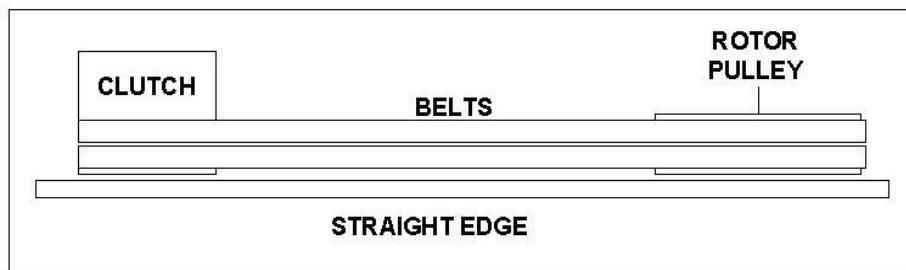

Figure 2
- Check alignment of the clutch with the drive pulley by placing a straightedge across both faces as shown in figure 2. If adjustment is necessary, correct alignment by moving rotor pulley in or out on the rotor shaft. **Do not make adjustment by moving the clutch on the engine shaft.**